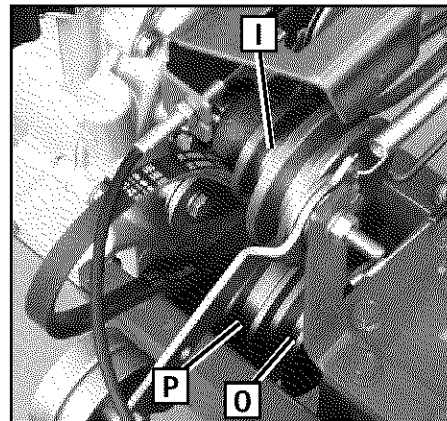
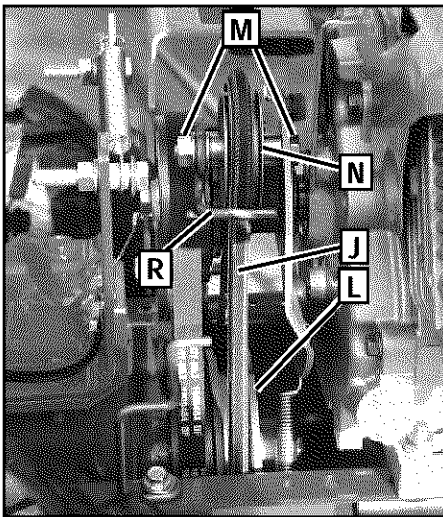
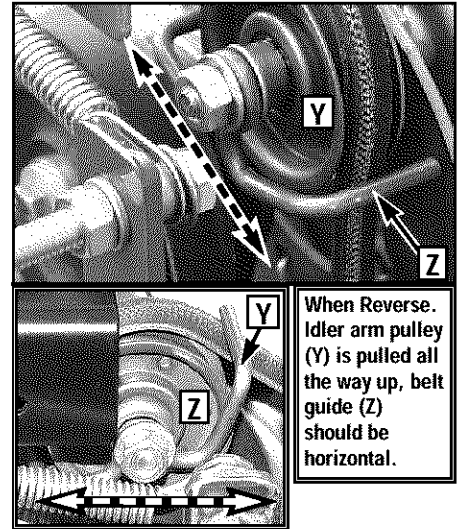

Figure 5-19
Figure 5-21: Right-side view.
Figure 5-22: Reverse belt guide positioning.
3. From the front of tiller, insert the forward clutch belt in between the bottom of the engine pulley (I, Figure 5-19) and the top of transmission pulley (P).
6. Reinstall the reverse clutch belt. Insert the bottom of the belt into the frame, then pull down on the belt and slip it onto the large, forward-most groove of the transmission pulley (P, Figure 5-19).
The reverse clutch belt (J, Figure 5-21) is driven by the engine pulley (I, Figure 5-19). When the Reverse Clutch Control
knob is pulled out, it pulls the reverse idler arm and pulley (N, Figure 5-21) inward, which tightens the belt against the engine pulley. This drives the transmission pulley (L), resulting in reverse motion.
3. Pull the reverse clutch belt downward and slip it off the transmission pulley (L, Figure 5-21).
4. Use two 1/2" wrenches to loosen and remove wire belt guide (R, Figure 5-21) from the reverse idler arm pulley. Do not remove locknut and screw.
IMPORTANT: The reverse belt has a "V" shape. When installing the belt, make sure that the widest (flat) side of the belt rides against the reverse idler pulley (N, Figure 5-21) and transmission pulley (L). If needed, the belt can be twisted "inside out" so that the "V" shaped side is on the outside and the widest side is on the inside.
2. Insert the belt down into the front of the transmission housing. Slip the top half of the belt onto the reverse idler arm pulley (N, Figure 5-21).
3. Pull the belt downward and loop the bottom half of belt around the front groove of transmission pulley (L, Figure 5-21).
5. (You will need an assistant to help with this step.) Pull the reverse idler pulley (Y) up to its highest point and position the belt guide (Z) horizontally level as shown in Figure 5-22. Securely tighten the screw and locknut (M, Figure 5-21).